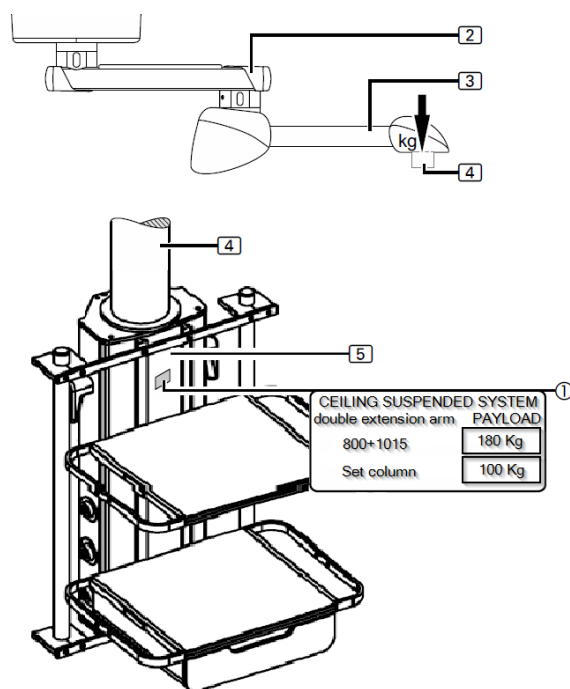

Fig.22 Location of the payload label
The dead weight of the drop tube (4) and the service head (5) must be subtracted from the maximum load capacity of the suspension system. This value corresponds to the maximum load capacity (payload). In the example illustrated in figure 22, there is an extension arm and motorised arm assembly with a load capacity of 180 kg, the maximum payload is 100 kg after subtraction of the dead weight of the service head and is indicated on the sticker (1) on the service head.